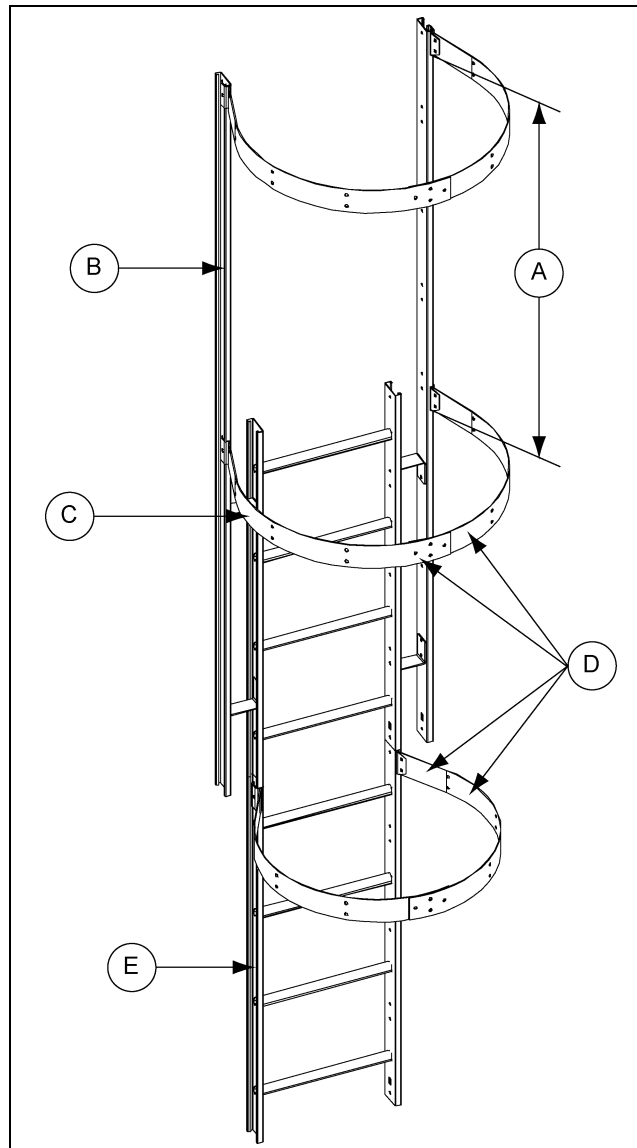

Figure 9C
To complete the safety cage hoop installation, some pre-assembly is required. Attach four (4) safety cage brackets to the extension rails and two (2) safety cage brackets to the second 4' ladder section as shown in Figure 9C. See cage hoop bracket detail on Page 40 for proper installation. Next, bolt each set of safety cage hoop halves together using 5/16" x 1" bolts with the head of the bolt to the inside of the safety cage. You may now bolt these assemblies to the safety cage brackets. Tighten bolts as you go.